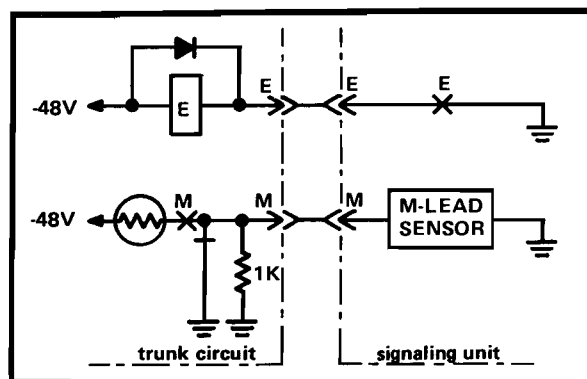

figure 3. Type I interface
1.04 When either module is arranged for DX1 operation, either Type I or Type II E & M-lead interfacing may be switch-selected. In general, Type I interfacing is used with electromechanical switching systems while Type II interfacing is used in electronic switching environments. Figures 3 and 4 in section 2 of this Practice show Type I and Type II E & M-lead interfacing arrangements, respectively.
2.05 When the 6001 or 6002 is optioned for DX1 operation, either Type I or Type II E & M-lead interfacing may be switch-selected (see figures 3 and 4). In general, Type I interfacing is used with electromechanical switching systems while Type II interfacing is used in electronic switching environments. With Type I interfacing, incoming and outgoing signaling consists of the presence of either ground, battery, or an open condition on the E & M leads. With Type II operation, incoming signaling consists of a contact closure between the M lead and the MB/SB (M-lead battery/signal battery) lead, while outgoing signaling consists of a contact closure between the E lead and the EG/SG (E-lead